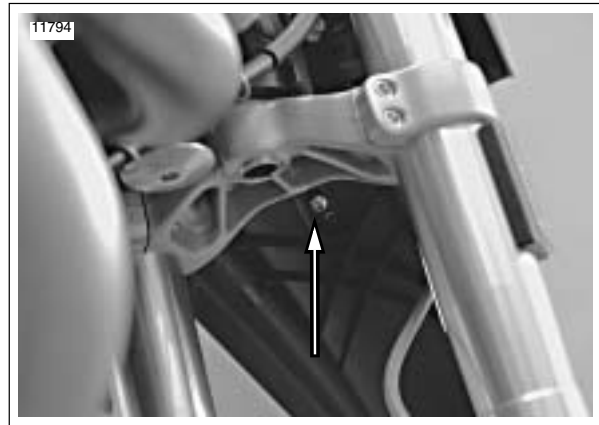

Figure 1-59. Vertical Headlight Adjustment Screw
See Figure 1-59. Loosen fastener on the bottom of headlight housing to adjust the vertical alignment.
- See Figure 1-59. The vertical headlight adjustment screw is located under the front upper fender.